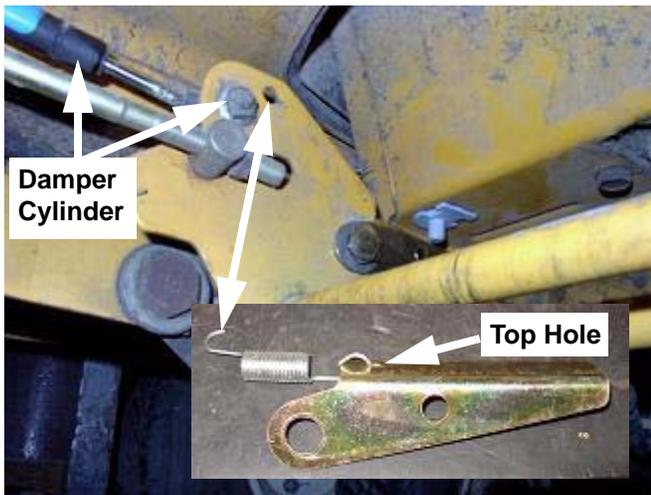

FIGURE 6
22. Connect the extension spring from step 6 to the hole on top, of the reverse switch actuator bracket, connect the other end of the extension spring to the hole in the forward/reverse shaft assembly/clutch cam above the damper cylinder. See Figure 6.